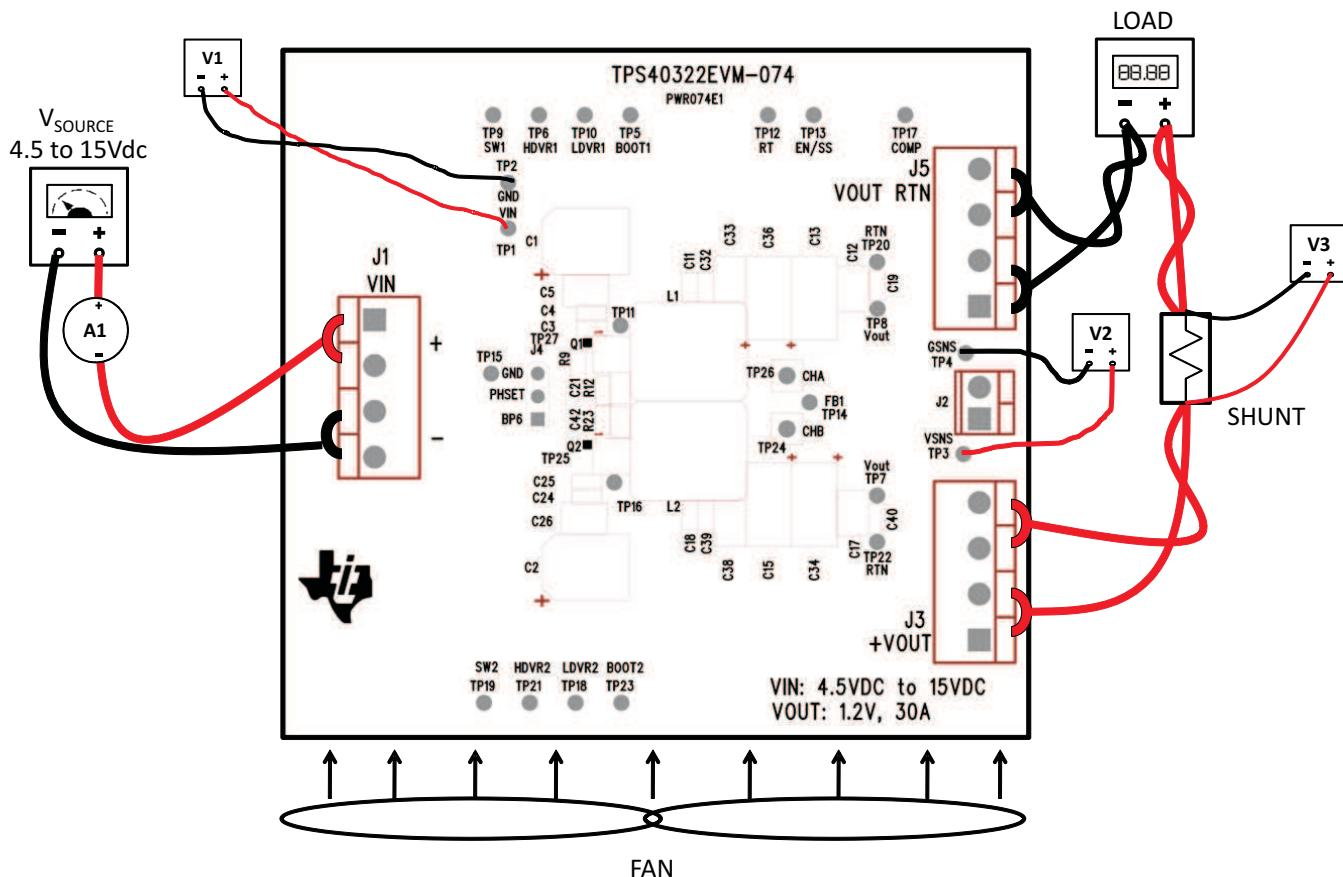

Figure 2. TPS40322EVM-074 Recommended Test Setup
Voltage Source: The input DC voltage source (V_{SOURCE}) shall be a 0-V to 15-V variable DC source capable of 10 A_{DC} at 4.5 V_{DC}. Connect V_{SOURCE} to J1 as shown in Figure 2.
Oscilloscope: A digital or analog oscilloscope can be used to measure the ripple voltage on V_{OUT}. The oscilloscope should be set for 1-MΩ impedance, 20-MHz bandwidth, AC coupled. Test points TP8 and TP20 or test points TP7 and TP22 can be used to measure the ripple on V_{OUT}. Use the tip and barrel method shown in Figure 2 to avoid inducing additional noise due to the large ground loop area that would result from using the probes ground lead.
Shown in Figure 2 is the basic test set up recommended to evaluate the TPS40322EVM-074.
- **Input connections:** Prior to connecting the DC input source, V_{SOURCE} , it is advisable to limit the source current from V_{SOURCE} to 10 A maximum. Make sure V_{SOURCE} is initially set to 0 V and connected as shown in Figure 2.
- **Output connections:** Connect Load to J3 and J5, as shown in Figure 2. Set LOAD to constant current mode to sink 0 A before V_{SOURCE} is applied. Connect voltmeter V2 across TP3 and TP4 as shown in Figure 2.
- **Other connections:** Place Fan as shown in Figure 2 and turn on, making sure air is flowing across the EVM at all times.